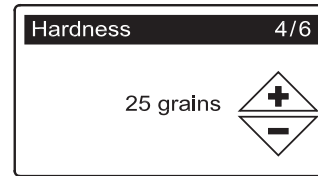

FIG. 11
- 7. HARDNESS** Press the UP (▲) or DOWN (▼) buttons to set the value of your water’s hardness (See Figure 11).